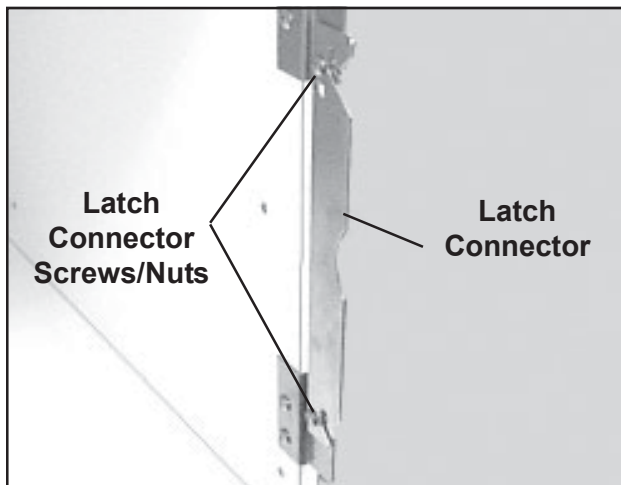

Figure 52. Latch Connector Screws/Nuts
3. If it does not, slightly loosen both latch connector screws/nuts (Figure 52). These screws/nuts must be loose enough to allow the latch connector to move freely.